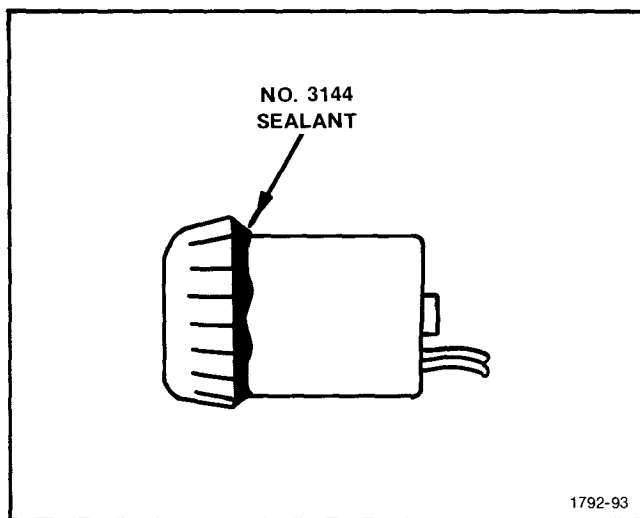

Fig. 5-15. Application of sealant to Battery Meter.
16. Install Battery Meter (see Figs. 5-15 and 5-16)
1. Apply a thin bead of No. 3144 sealant to the junction of the bezel and meter canister (see Fig. 5-15).